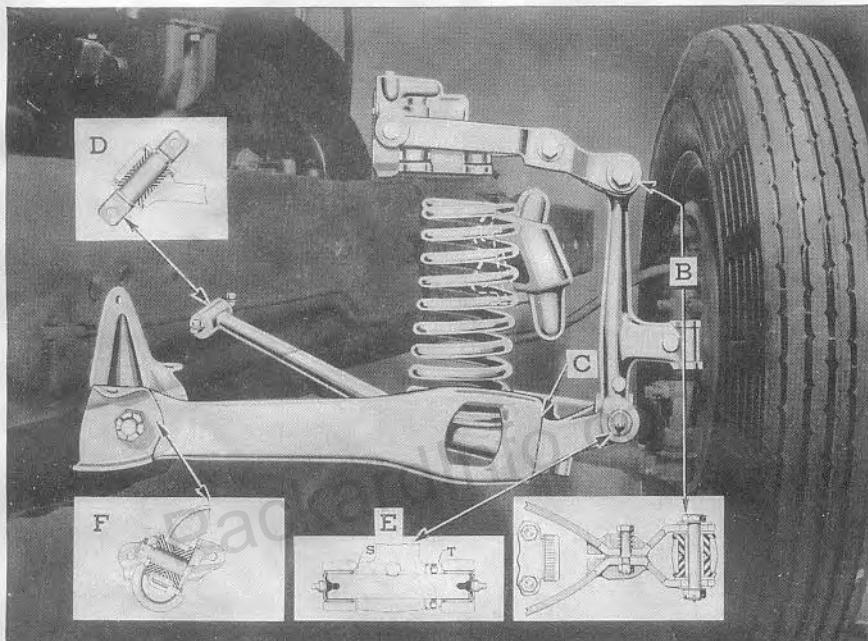

Fig. 59—Rear View of Front Suspension System Right Side. Rubber Bushings Are Used at "B", "D" and "F". Bearings at "E" are Roller Type
**Front Support Arm Outer Bearings**—These caged type roller bearings "E" Fig. 59 differ from those used on models 1700 and 1701 mainly in that one of the two bearings in each assembly **must** be renewed whenever the arm pin or either bearing is removed for any reason. The thrust bearing preload should be one to six pounds and is adjusted as outlined in section 83 on page 41 of the 1938-1939 Shop Manual.
**Torque Arm Mountings**—The rear ends of torque arms are now yoke shaped and are carried on Harris type rubber bushings instead of the ball ends with detachable rubber covering used on 1700 and 1701. Nut at torque arm bushing bolt should be drawn up until frame stamping bottoms against shoulder on bolt. Refer to "F" in Fig. 59.